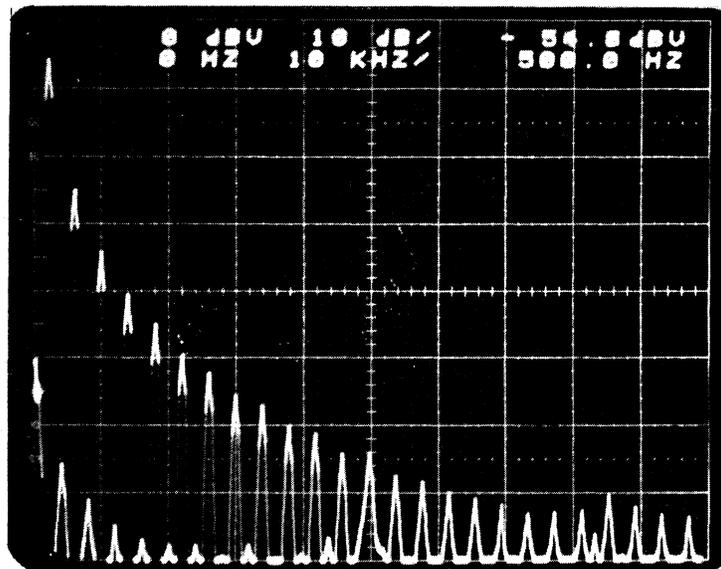

Fig. 3-4 Spectrum of Test Signal when Instrument is Operating Properly
- SMOOTHING, twelve (12) o'clock
- c. Turn power on. The 7530A then performs a series of self tests on its digital circuits during power-up. If any self test fails, the LED in the PROCESSING Cluster marked ON will flash continuously and possibly one line of letter m's will appear on the CRT. If it passes the self tests, the LED marked INPUT OVERLOAD will go on for a short time and then extinguish. The PROCESSING ON LED will stay on after first flashing for less than ten (10) seconds. The display will appear similar to Fig. 3-4.